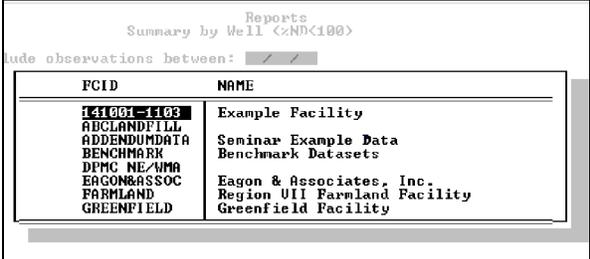

Figure 10-104. Pop-up list for Facility ID validation.
- Press <Enter>. A list of all Facilities in the currently selected data directory will appear on your screen as shown in Figure 10-104.